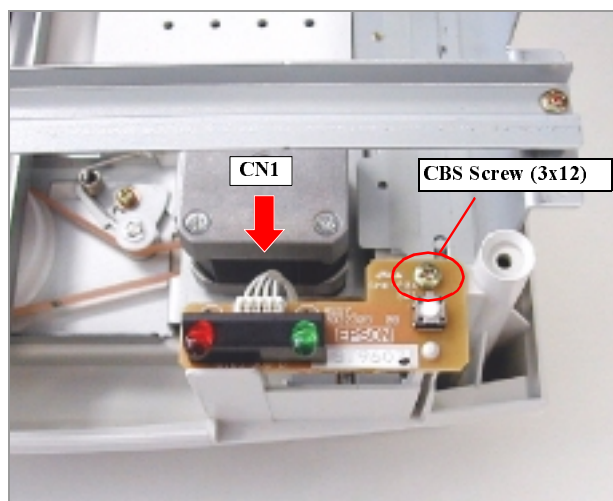

Figure 4-1. LED Board Removal
3. Disconnect the harness from CN1 and remove the one screw (CBS, 3x12). Then remove the LED Board from "HOUSING, LOWER". (See Figure 4-1.)